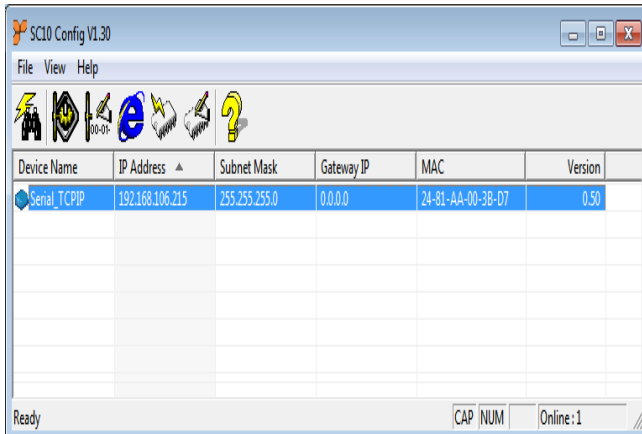
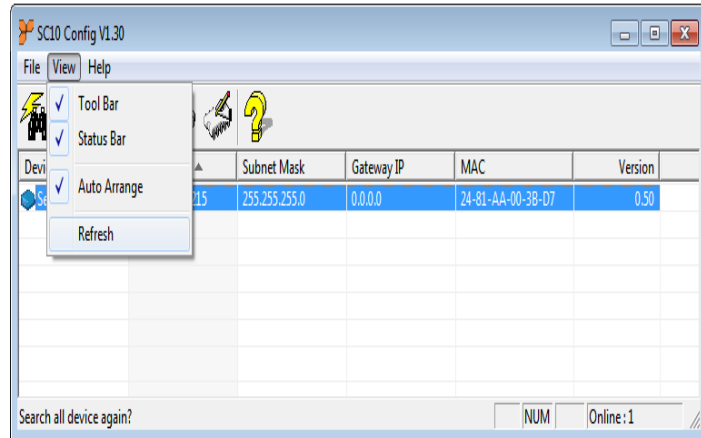

Figure 1
Figure 2
**SC10Config** utility used to detect and setup the SC10MK2 on the Network as shown in figure 1. Run the program from SC10MK2 folder provided in the CD. When you activate the tool it will detect the installed SC10MK2 as shown in the Figure 2. The SC10Config Tool can setup only one SC10MK2 at a time.
View -- Refresh (Figure 2).
Remark: Always run the View -- Refresh after any changes for confirmation as shown in Figure 2